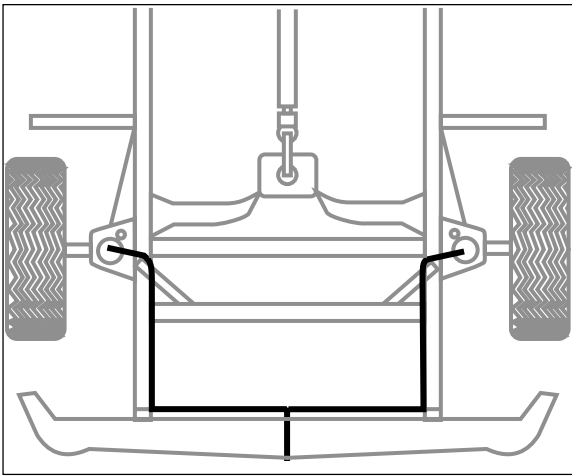

Figure 3 - TEE AIR LINE
- A. Find desired tee location on the frame rail or radiator core support bracket (Figure 3).
Stability translates into safety and should be the priority, meaning the driver may need to sacrifice a perfectly level and comfortable ride. Stability issues include roll control, bounce, dive during braking and sponginess (fig. 3). Tuning out these problems usually requires an increase in pressure.